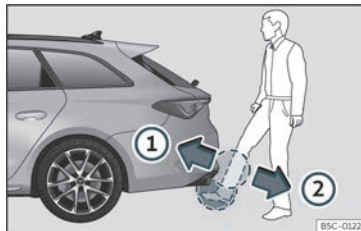

Fig. 88 Rear lid with sensor-controlled opening (Easy Open).
- With a brisk movement, bring your foot and lower leg as close as you can to the bumper. The lower part of the leg needs to be close to the upper sensor area and your foot must be close to the lower sensor area >>> **Fig. 88 ①**.
- Quickly remove your foot and lower leg from the sensor areas >>> **Fig. 88 ②**. The rear lid will open automatically.